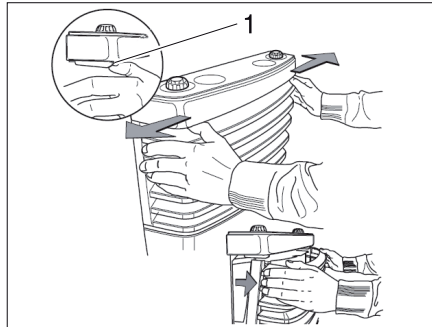

Fig. 109 Removing the heater cover
- Remove the heater cover. To do so, push the locking springs (Bild 109,1) sideways and outwards, swivel the cover forwards and lift it out of the lower brackets.